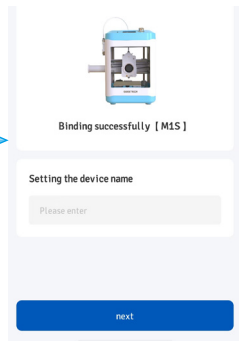

Figure 24
08. Enter the 3D printer name, as shown in Figure 24, then tap “Next” to proceed to the WiFi setup page.